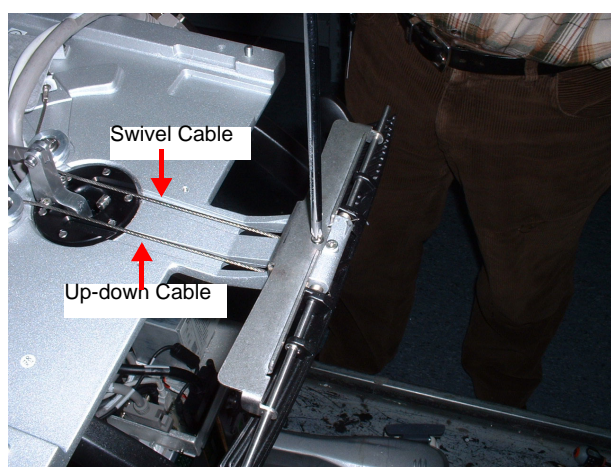

Figure 8-98 Protective Metal Plate Rotated 90 Degrees
- 3.) Unscrew the protective metal plate (shown in Figure 8-98) and rotate it upwards 90 degrees.